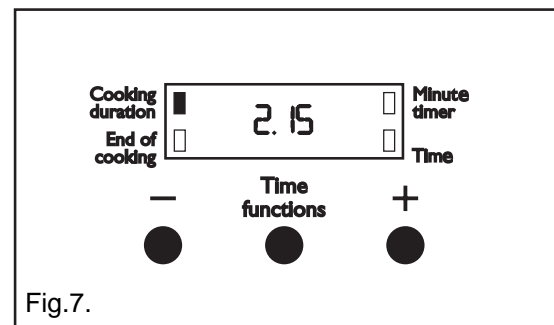

Fig.7.
- 3) To set the length of cooking time, press the Time Functions control button until the 'Cooking Duration' indicator neon is illuminated. Press the increase control (+) until the required length of cooking time is displayed, e.g. 2 hrs 15 mins as Fig. 7. If necessary depress the decrease control (-) until the correct time interval is achieved. The maximum cooking time is 10 hours.